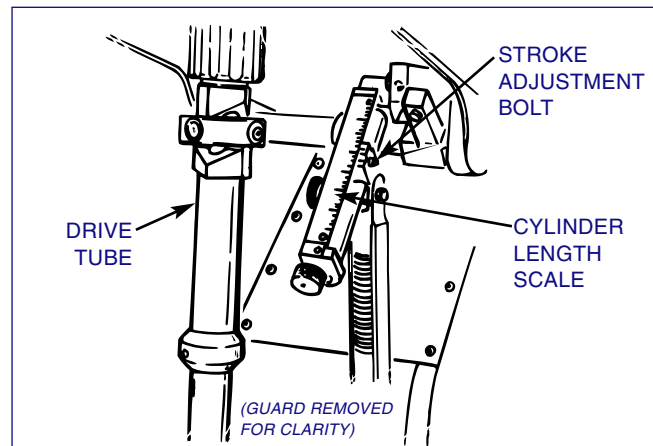

FIGURE 3-30, Stroke Length
7. Loosen stroke Adjustment Bolt and turn stroke adjusting knob so that index mark lines up with desired stroke length on the graduated scale (*see Figures 3-30 & 3-31*). Tighten Stroke Adjustment Bolt.